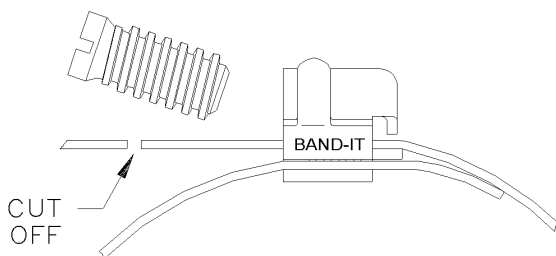

Figure 3
Pull clamp diameter snug around object to be clamped. Insert screw into front entrance, tighten and cut off band (Figure 3).
- B. On applications where it is desirable to minimize the length of band between housing and cut-off end (Figure 3), pull clamp diameter snug around object, mark band even with front entrance of housing, remove band and housing from object, cut band in marked location. Re-insert cut band end through back of housing, insert screw and tighten.